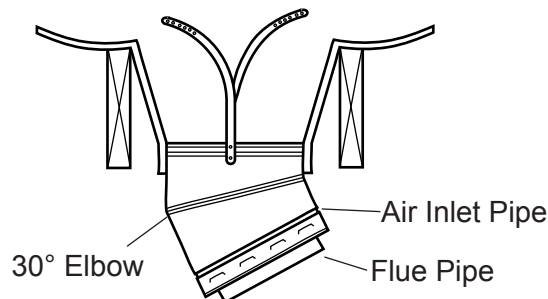

Figure 21 - Elbow Supports
2. Do not use elbows in any combination that inclines the chimney more than 30° from vertical. *See Figure 21.*